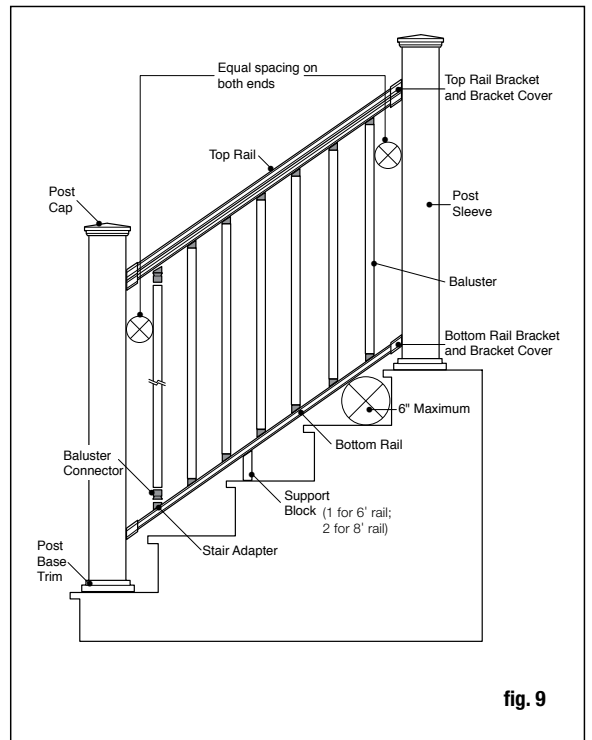

fig. 9
Step 6: Measure the distance between installed post sleeves to determine the length of the top and bottom rails. Place the bottom rail on the stair treads next to the posts and adjust so the distance between the first baluster connector and post is greater than 1-3/4" or equal on both ends. Mark the rail to the proper length and angle. Cut the bottom rail. Cut the top rail to the same length and angle (fig. 9). Make sure both support feet are trimmed to ensure that the baluster connector and stair adaptor at each end contact stair tread and bottom rail properly. **One support foot is required for 6' horizontal rail while two support feet are required for 8' horizontal rail or the stair railing will not be installed correctly.** Baluster connector and stair adaptor must be securely fastened to tread and bottom rail. To install support feet: 1) Set baluster connector with screw into stair tread; 2) Place support foot over baluster connector; 3) Set stair adaptor with screw into bottom rail, ensuring centerline of adaptor is plumb with support foot; 4) Insert stair adaptor into top of support foot (fig. 10a and 10b).
Step 8: Place the proper rail bracket covers and stair brackets on the ends of the bottom rail. Pay particular attention to the brackets being used, as they differ based on top/bottom rail and up/down angle. Prop the bottom rail between the posts on the stair treads (fig. 10b). You may need to place equal shims between two stair tread noses to elevate the bottom rail. Check for requirements in your area. Typically, a 6" sphere may not be allowed to pass through the triangle formed by the bottom rail, tread and riser (refer to previous page for fig. 9). Center the stair bracket on the post. Using the stair bracket as a guide, mark the screw positions